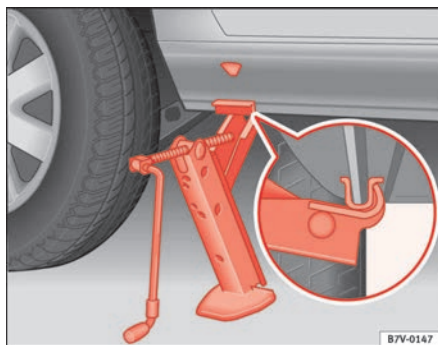

Fig. 161 Jack at rear on right
4. Adjust the jack and continue to crank the claw up until it is in position around the vertical rib ⇒ **fig. 161** (arrow) underneath the vehicle ⇒ .
- The jack claw must grasp the vertical rib under the sill properly so that the jack does not slip off when you are raising the vehicle ⇒ **fig. 161**.